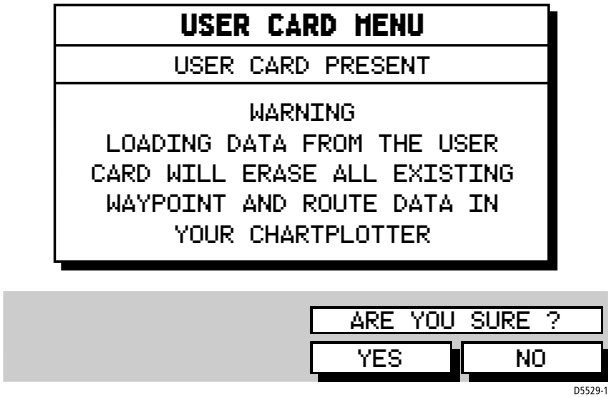

Figure 3-49: Load Warning and Soft Keys
- 1. Press the LOAD WPT/RTE DATA FROM CARD soft key; the warning and Yes/No soft keys are displayed, see *Figure 3-49*.